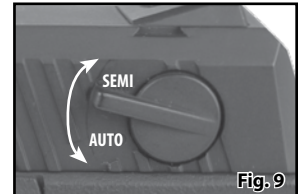

Fig. 9
- For Semi-Auto mode, rotate the fire mode selector switch upward to the "SEMI" position (Fig. 9).